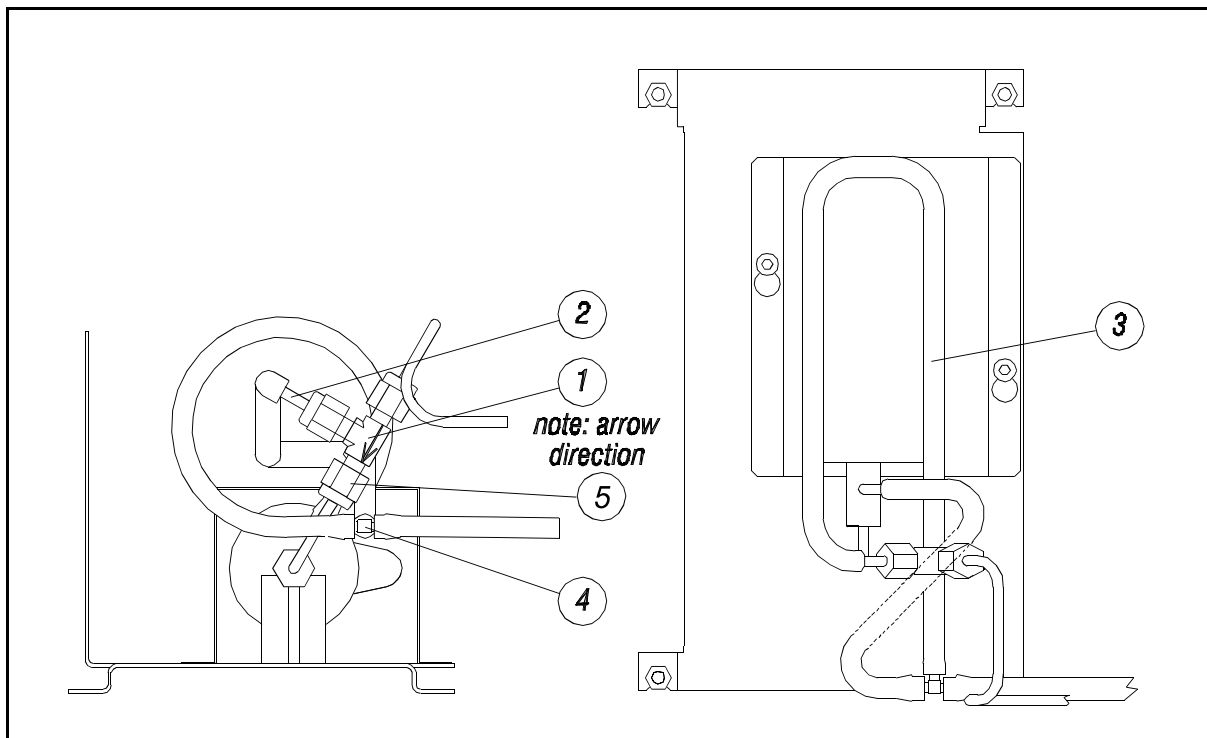
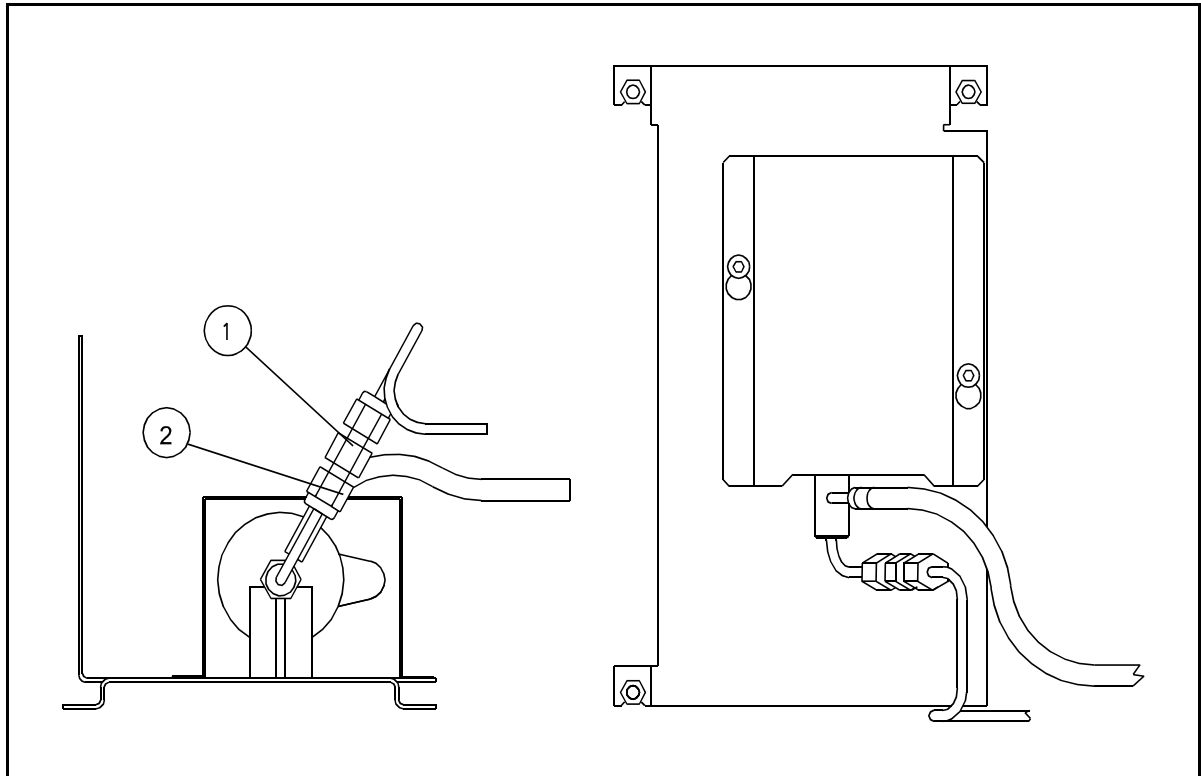

Figure 6.11 Pressure driven zirconia gas sensor module.
Figure 6.12 Flow driven zirconia gas sensor module
Refer to figure 6.11.
Refer to figure 6.12
The flow driven system is non restricted, and does not have a bypass. The tee piece restrictor (figure 6.11 [1]) is replaced by a straight connector (figure 6.12 [1]).
- d) Detach the cell sample connector [4] from the restrictor assembly 'T' (figure 6.11[1]). Detach the viton tube from the vent port on the side of the cell sample connector [4].